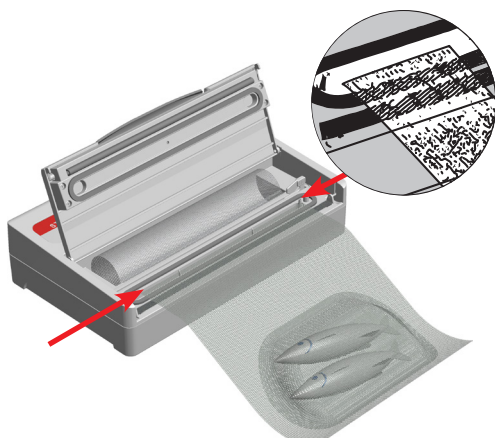

Figure 6: For vacuum packing place the filled bag in the middle of the Vacuum Channel (between black foam seals).
9.	<p>Vacuum Channel with Tray</p> <p>During vacuum packing, the edge of the bag must be set between both gaskets in the middle of the Vacuum Channel (Figure 6). In case of improper vacuum packing, any excess liquid is stopped here and the Liquid Block indicator is lit. You can read more about this in Chapter 2.2.3.</p>
- Place the filled bag on the work surface in front of the machine and pull it to the middle of the Vacuum Channel (Figure 6).